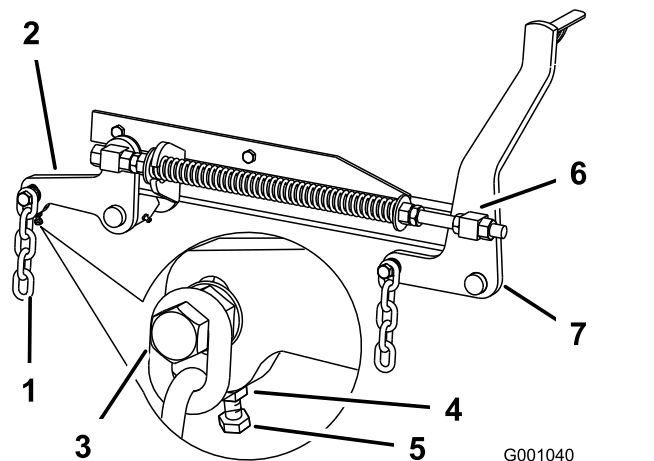

Figure 75
7. Loosen the front swivel jam nuts, at the front of the right and left swivels, approximately a 13 mm (1/2 inch) (Figure 75).
8. Adjust the lift nuts on both the left and the right side of the machine to achieve 6 to 10 mm (1/4 to 3/8 inch) lower in front at **A** than in the rear at **B** (Figure 75).